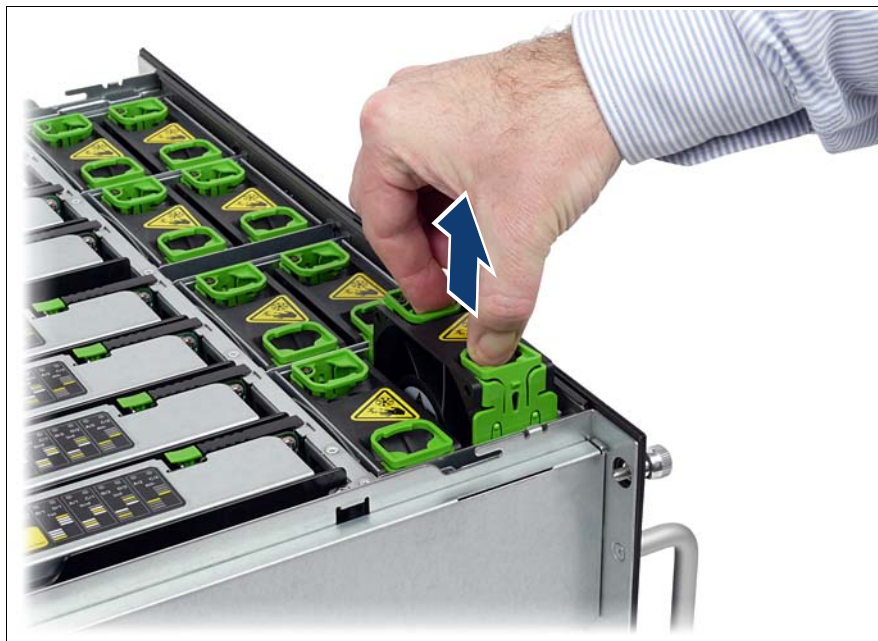

Figure 22: Unlocking a fan module and removing it
- ▶ Press the two green handles and lift the fan module out of the housing (see figure 22).